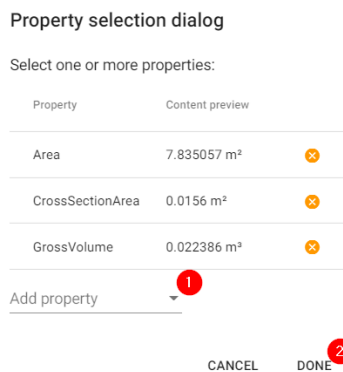

Figure 34: Selecting specific attributes for comparison
1. Pencil icon: Click on the pencil icon for opening the attribute selection window (Figure 34). Select specific attribute(s) you would like to compare exclusively. You can add one property or more (1), when you are done, click on Done button (2).